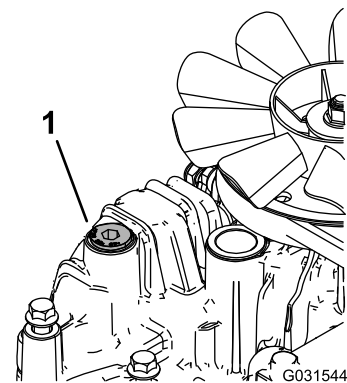

**Figure 70**
5. Locate the drain plug in the bottom of each transmission and place a drain pan under the plugs (Figure 70).